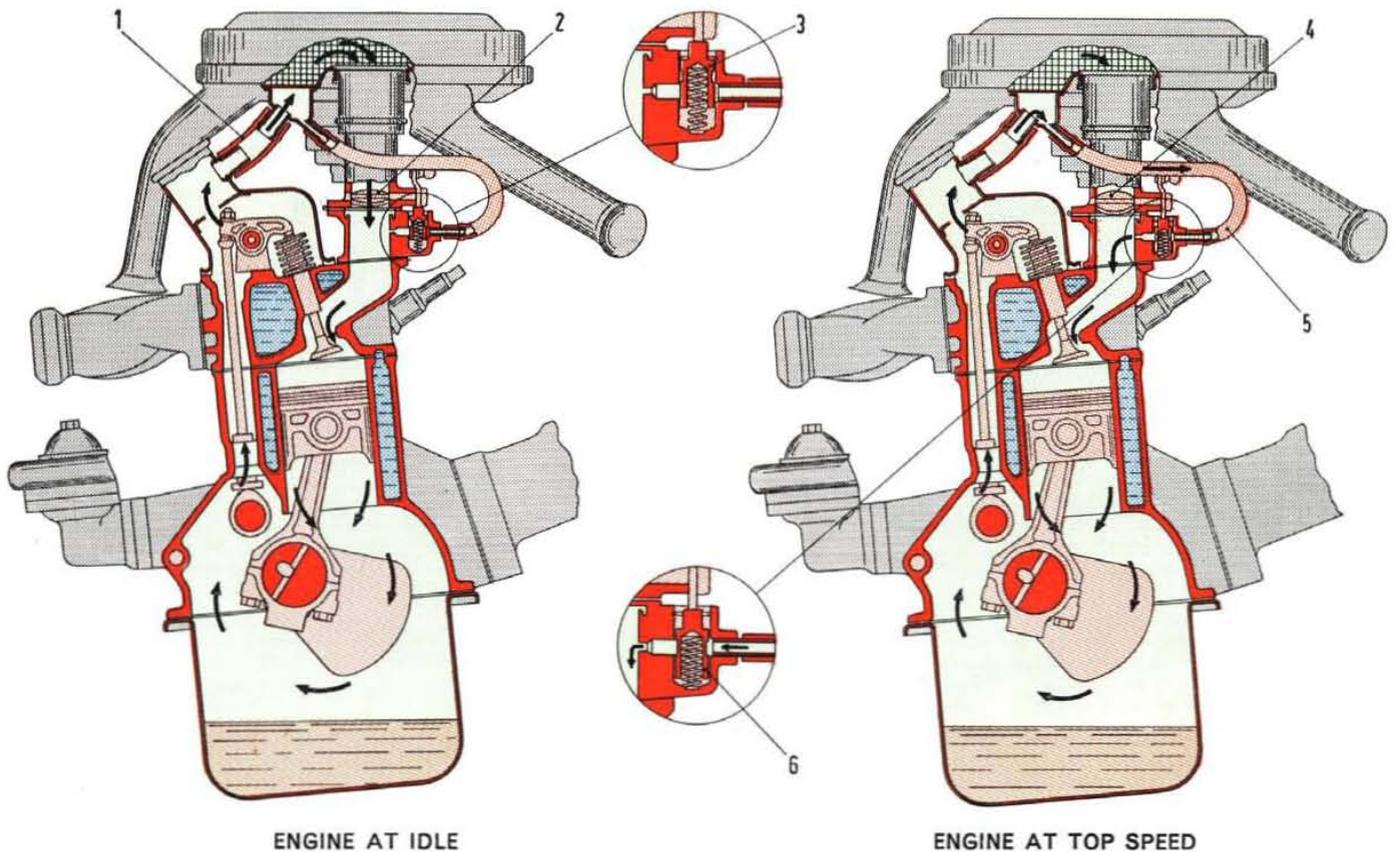

Fig. 155 - Recirculation diagram of blow-by gases and oil vapours in engine interior.
When the engine is running at idle (fig. 155) all blow-by gases and oil vapours are sucked back through the line (1) which connects the engine to air cleaner and carburetor. In these conditions the breather valve (3) and the throttle valve (2) of carburetor are closed off.
When the engine is running at top speed (fig. 155) a portion of blow-by gases and oil vapours are sucked back through line (1).